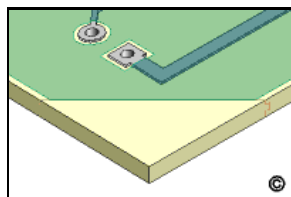

Figure 4: Saw off excess new base material.
13. Saw off the excess Base Board Transplant material. File flush with existing edge. (See Figure 4).